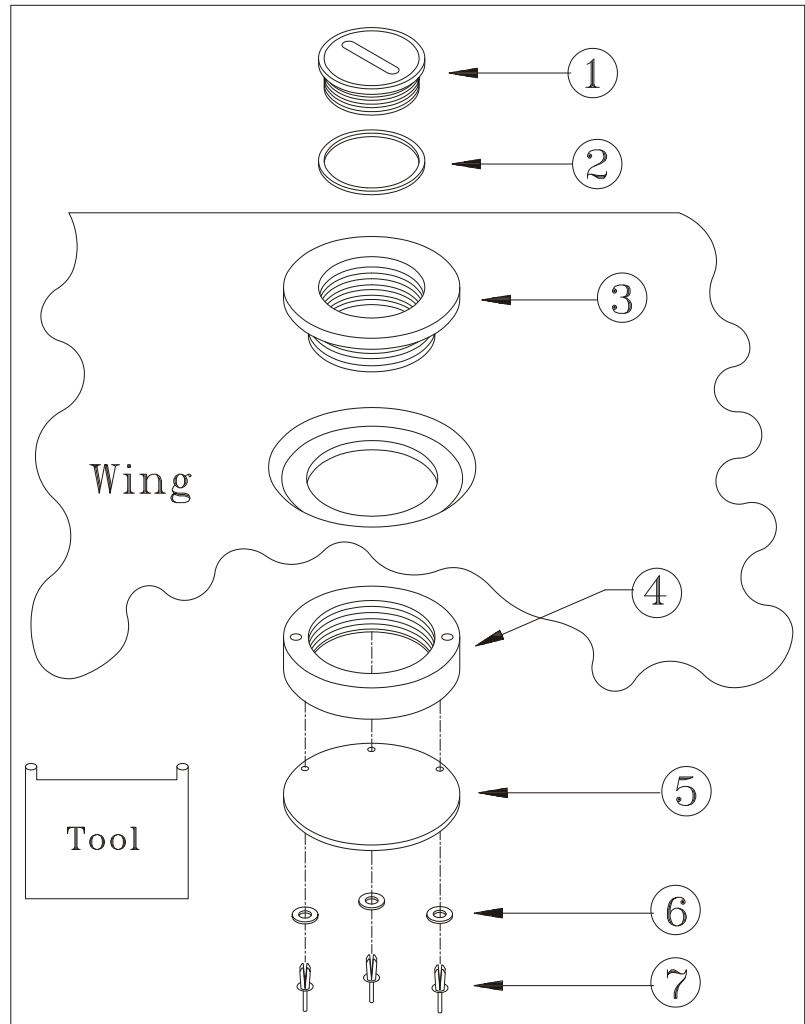

Figure 7
- 3 Unscrew filler neck lock ring (4, Figure 7) with sealing lip (5) using a tool as shown in Figure 7.
- 4 Remove filler neck (3) with filler cap (1) and O-ring (2).
- 1 Carefully drill out the body-bound rivets (7, Figure 7).
- 2 Install the new sealing lip driving in new washers (6) and body-bound rivets.